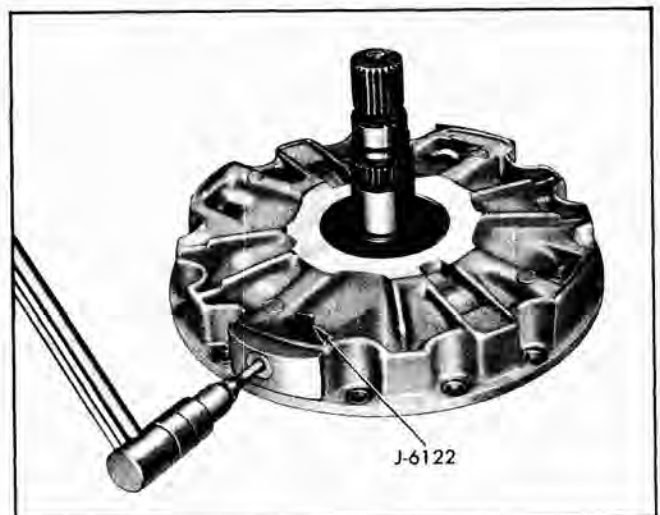

Fig. 80 Installing Exhaust Valve Covers
2. Install exhaust valve retaining tool J-6122 (Fig. 80).